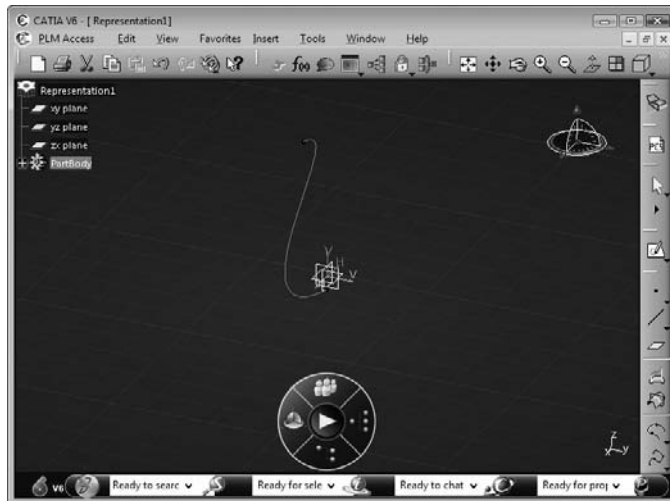

FIGURE 5.36
**Figure 5.36** shows the sketch of the revolved surface to be created in the Wireframe and Surface Design workbench: